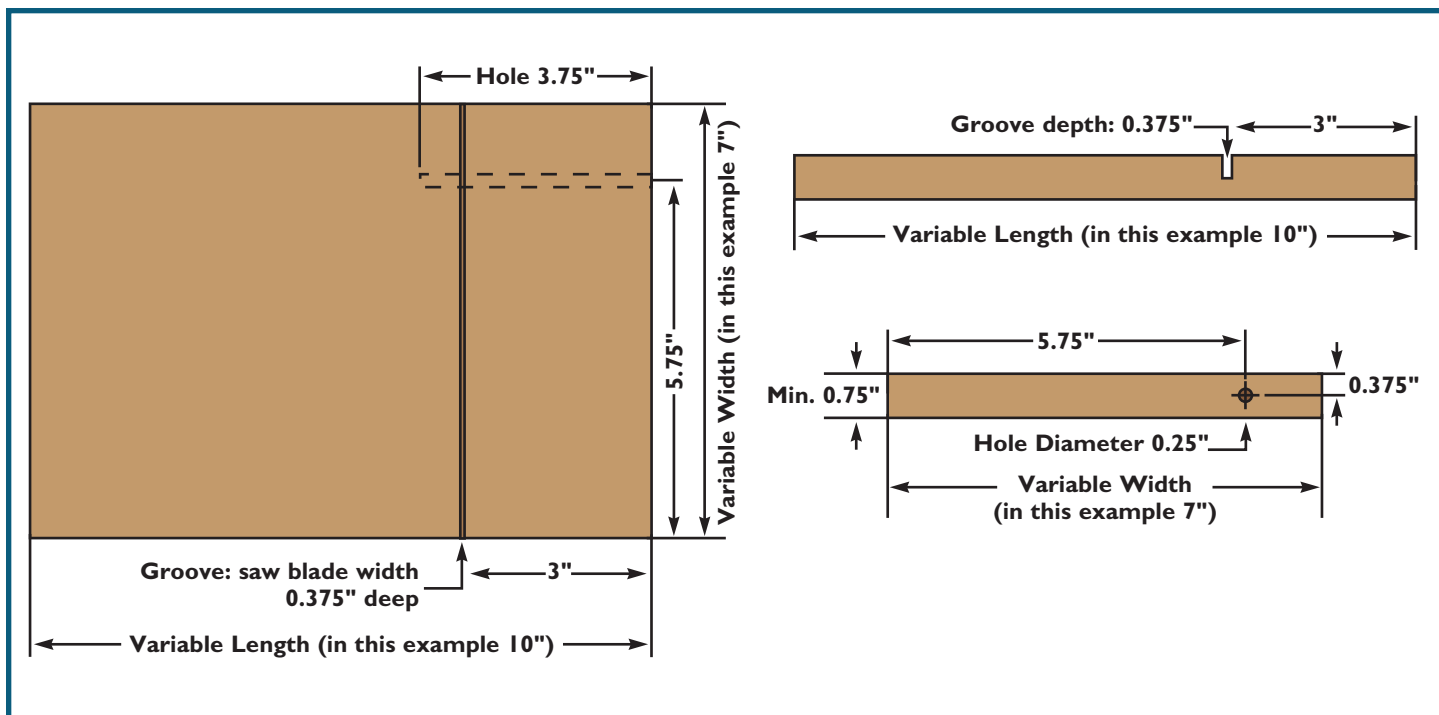

Fig. 1
2. Installation of the Cheese Slicer Kit hardware requires a deep hole in the end of the board to accept the arm, and the hole must be positioned correctly for the hardware to work. The hole must be $\frac{1}{4}$ " in diameter x $\frac{3}{4}$ " deep, and its center must be $\frac{3}{8}$ " down from the board's top face and $5\frac{3}{4}$ " from the front edge of the board. **Fig. 1**. It's very important that it be drilled perfectly straight. We recommend using a drill press, clamping your board in a vise and using a drilling guide, or making a jig that can guide the drill bit straight into the material.
3. Cut a groove the thickness of a table saw blade in the top face of the board to allow the cutting wire to pass all the way through the cheese. Set the table saw blade to a cutting height of $\frac{3}{8}$ " and use a miter gauge and a stop block on the fence to cut the slot 3" in from the end of the board where you drilled the hole. Make sure you cut the groove in the correct face and at the correct end of the board. **Fig. 1**.